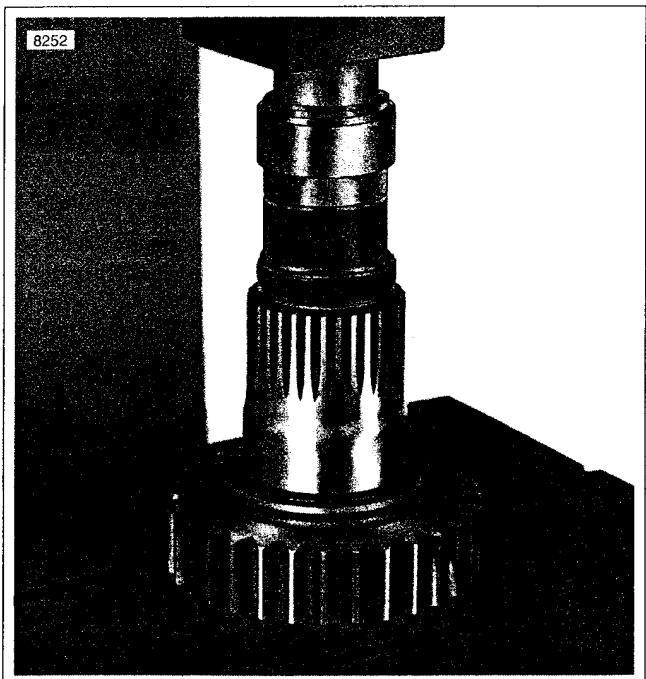

Figure 7-39. Installing Clutch Side Needle Bearing in Main Drive Gear
9. See Figure 7-39. Install clutch side needle bearing using an arbor press and the 0.315 in. step end of tool as shown. Press until tool is flush.